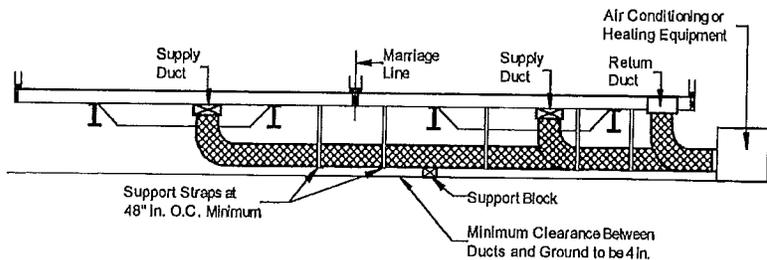

Figure 88. Ducts connecting exterior heating and/or cooling equipment to the home
2. **Install ducts.** Install the appropriate supply and return ducts (not provided) between the remote unit and the home (**Figure 88**) making connections according to the instructions for crossover ducts in **Crossover Connections** (p. 49).
Prepare the whole-house ventilation system according to the ventilation system manufacturer's instructions. Confirm that any fresh air intake ducts extend to the exterior and do not draw air from the crawlspace under the home. Do not allow any fresh air ventilation intake ducts to become kinked or restricted, forming a trap (Figure 88).